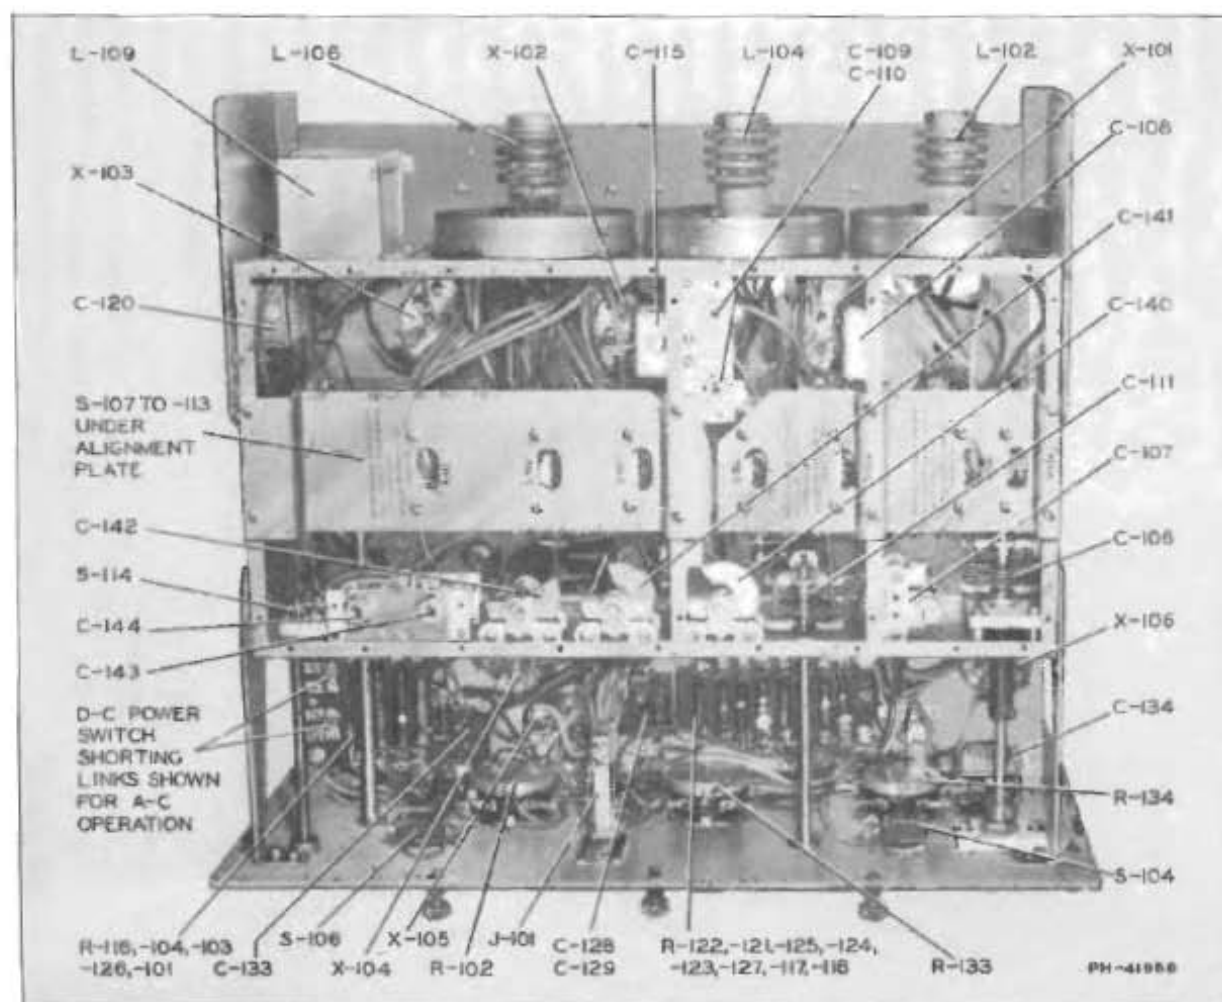

Figure 6—Receiver Unit CRV-40044 (Bottom View of Chassis—Covers Removed)
- 9.4-8 Normally, the a-c power is controlled either from the control unit or the power unit. In addition, a d-c power "On-Off" switch is provided on the receiver panel for use only in the event the receiver in an emergency is operated on batteries. *If this switch is opened when the receiver is normally operated on a.c., the load is removed from the power unit and overloading and damage of certain of its parts may result. For this reason, shorting links are provided behind the panel (see Figure 6) which permanently close this switch circuit. If it is desired in an emergency to operate the receiver on batteries, these links should be opened.*
- 10.1-17 "D.C. POWER OFF-ON" Switch: This switch is not used in the normal operation of this equipment and is accordingly wired out of the circuit by short-circuiting links located under the chassis (see Figure 6).
- NOTE:** HOWEVER, SHOULD OCCASION ARISE, THIS EQUIPMENT MAY BE OPERATED FROM A BATTERY SUPPLY CONSISTING OF SUITABLE FILAMENT AND PLATE BATTERIES. THIS METHOD OF OPERATION WILL REQUIRE OPENING OF THE SHORT-CIRCUITING LINKS (SEE FIGURES 6 AND 19) AND CONNECTION OF CABLE W-201, AS INDICATED BY THE DOTTED LINES IN FIGURE 15. OPERATION OF THE RECEIVER WILL THEN BE CONTROLLED BY THE "DC POWER" SWITCH ON THE FRONT PANEL.